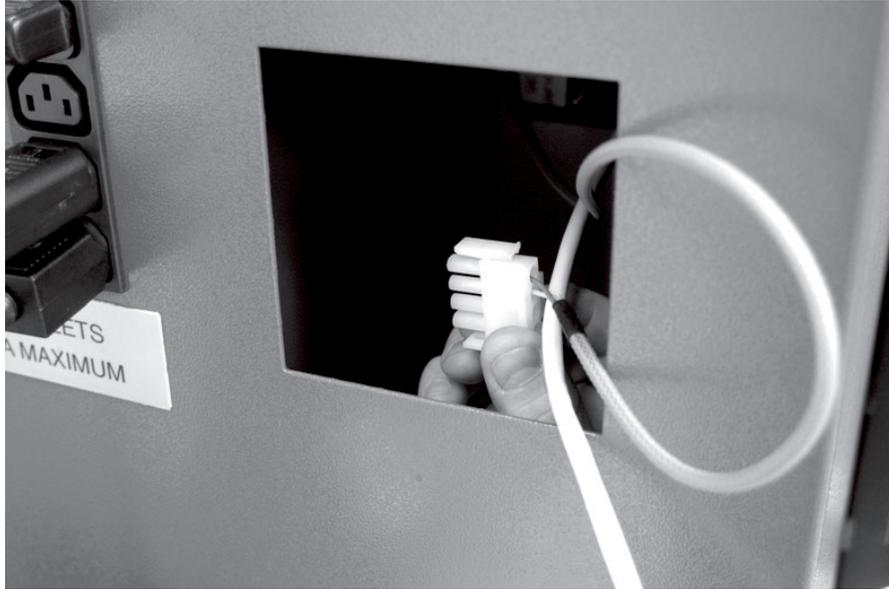

Figure 4 Reach inside the holes at the back of the main section and connect the power connectors
3. From the rear of the main section you will see two holes. Reach inside the holes and connect the two power connectors to the AFA5 modules. The power connectors are 4 pin plugs (see Figure 4).